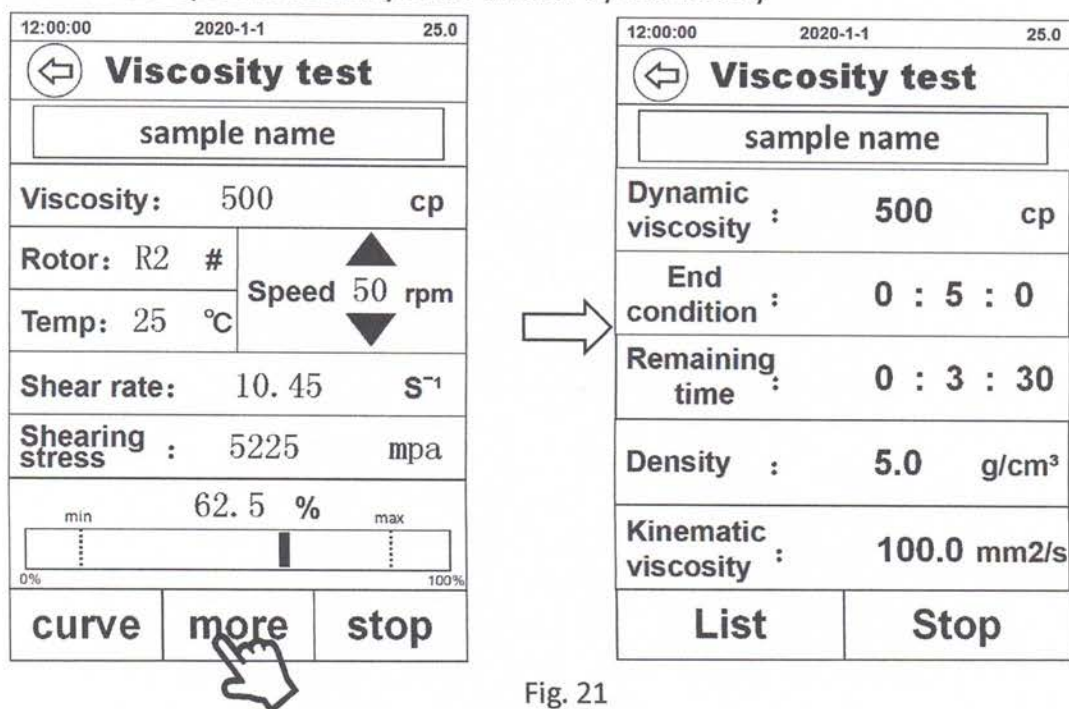

Fig. 21
5) Click “ More ” during the test. The content displayed on this interface is the previous optional parameters (Fig. 21). If it is not set before the test, the data will be displayed as zero.